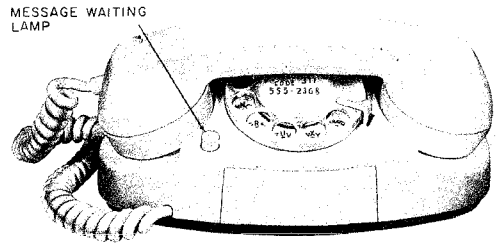

Fig. 3 — 701D-Type Telephone Set
2.09 The 701D telephone set is equipped with a message waiting lamp (see Fig. 3 & 4). This set is intended for use with PBX which provides message waiting feature.